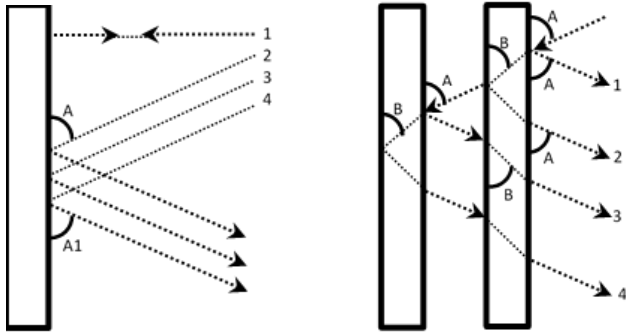

Figure IG18-4
When light falls onto a smooth glass surface, some rays are transmitted through, some are reflected back, and some are absorbed. If the incident rays are directly perpendicular to the glass surface, they are reflected straight back as shown in Figure IG18-4.
If the incident rays in figure IG18-4 (2, 3, and 4) fall obliquely upon the glass surface, their reflective rays bounce back at the same angle but to the other side of the normal perpendicular. The angle of incidence (A) always equals the angle of reflectance (A1).